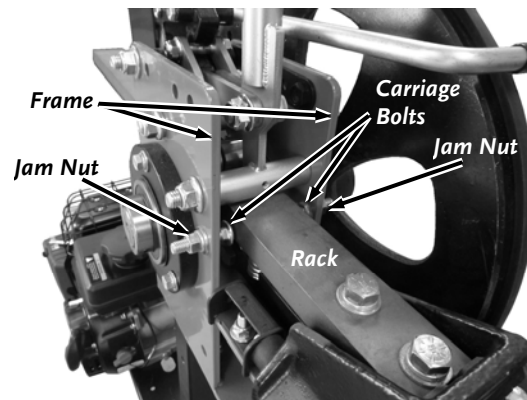

Figure 35
6. Loosen the Jam Nuts with a 9/16" Wrench and turn the Carriage Bolts with a 10mm Wrench until they touch the Rack (**Figure 35**).